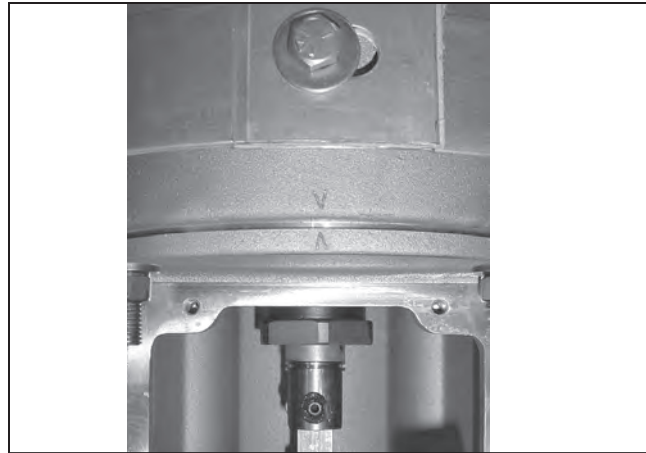

Figure 14. Align the positioning mark on the interrupter with the mark on the transition box.
- Make certain the positioning mark stamped on the bottom of the interrupter is aligned with the position mark stamped on the top of the transition box. See Figure 14.